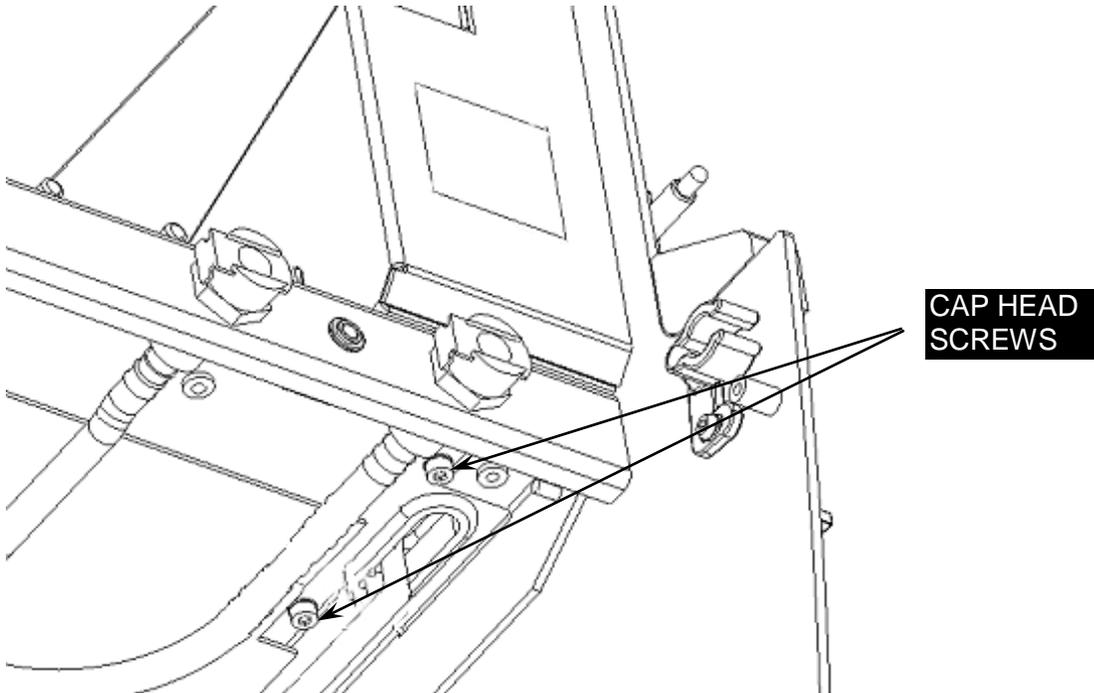

Figure 9-3: Cap Head Screws
2. Remove the two M3x8 Cap Head Screws (Figure 9-3).
Note: The two Cap Head Screws and two Internal Tooth Washers fit from underneath through the Workspace (Figure 9-3).